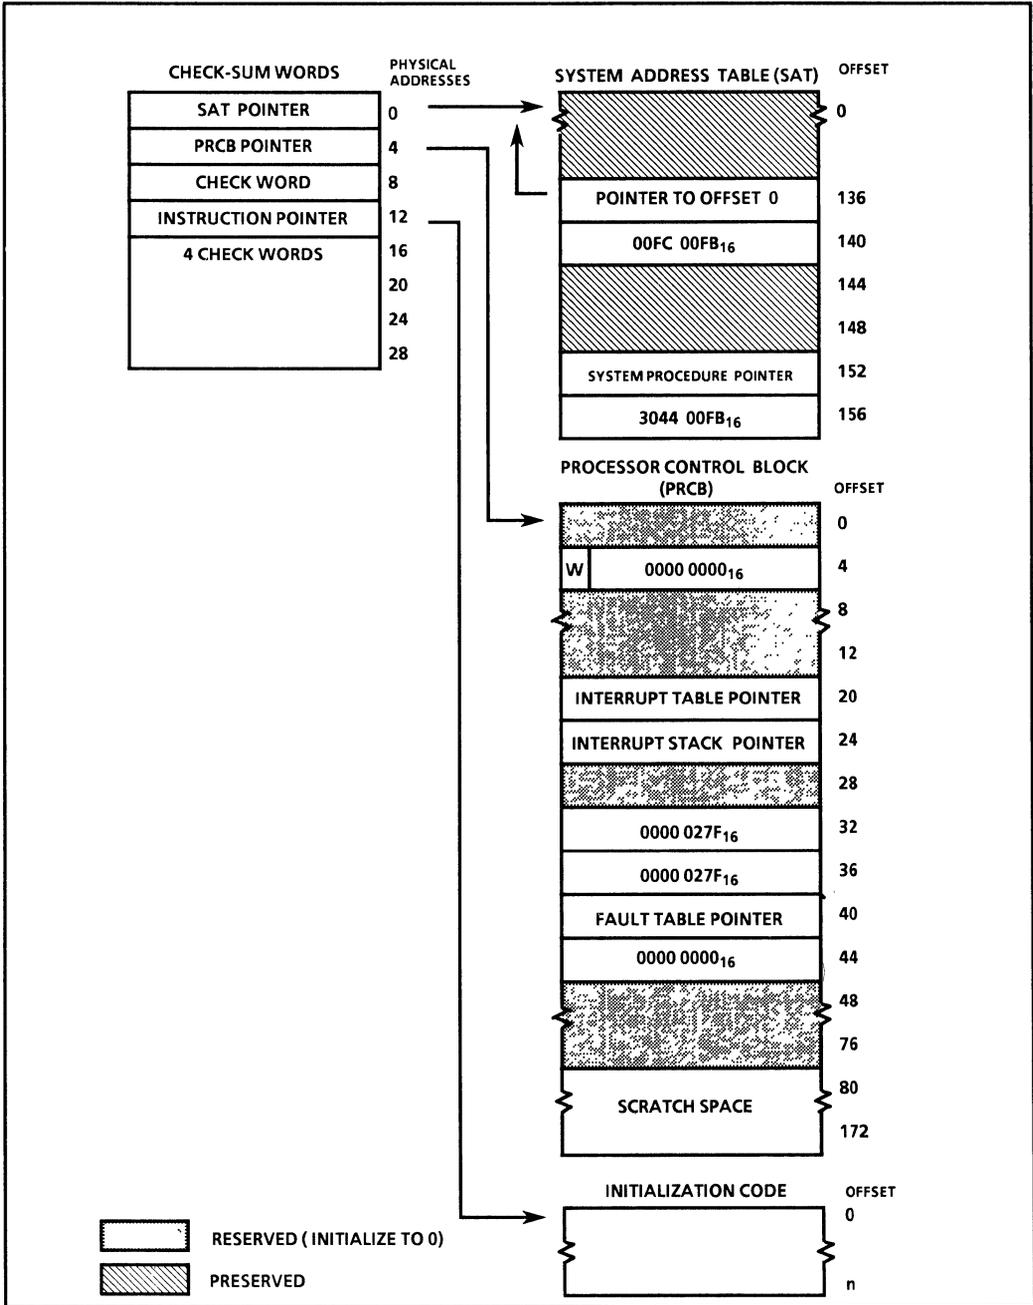

Figure 7-3: Initial Memory Image
The IMI performs three functions for the processor: (1) it provides check-sum words that the processor uses in its self-test routine at start-up, (2) it provides pointers to the system data structures, and (3) it provides scratch space that the processor uses to perform certain internal functions. Figure 7-3 shows the structure of the IMI.
The IMI shown in Figure 7-3 contains the minimum data structures required for the processor to initialize itself and begin executing code. To build a useful system, however, additional data structures are required, such as an interrupt table, a fault table, a system procedure table, a set of kernel procedures, a set of stacks, and a heap. Some of these data structures can be located in ROM along with the IMI; however, others must be in RAM because they must be writable.